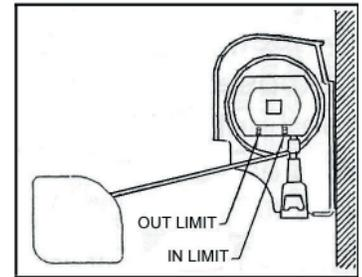

Fig. 1 Motors with Black Plastic Casings
4. The IN limit is the BLACK arrow. To make the awning close MORE, first turn the main awning wall switch or Wind Sensor switch to the IN (retract) position. At the motor, insert the tool and turn the switch next to the BLACK arrow in the direction of the (+) sign. ¼ turn represents approximately 1” of the awning movement. This action will create a tighter fit as the awning box closes. To make it close LESS, turn in the direction of the (-) sign. See Fig. 1.
The OUT limit is the RED arrow. To make the awning extend MORE and release more fabric, first turn the main awning wall switch or the Wind Sensor switch to the OUT (extend) position and extend the awning to its maximum position. Proceed by turning the limit switch next to the RED arrow in the direction of the (+) sign. To make the awning extend LESS, turn the switch in the (-) direction. See Fig. 1.